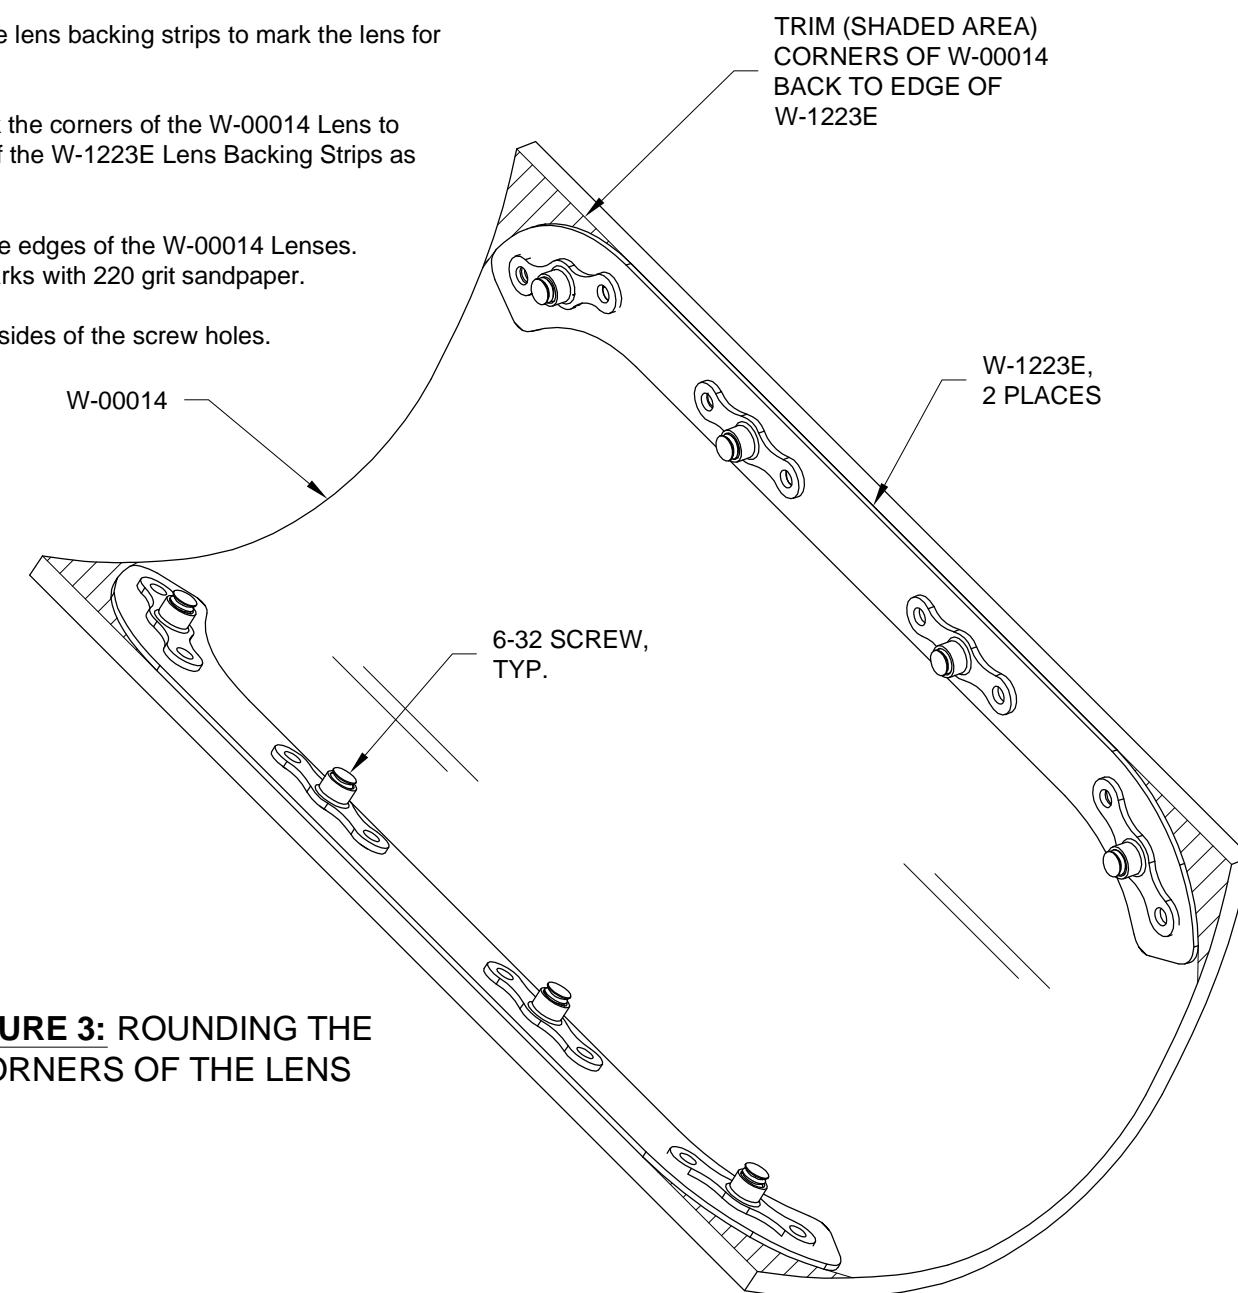

FIGURE 3: ROUNDING THE CORNERS OF THE LENS
Step 9: Temporarily position the W-1223E Lens Backing Strips on the W-00014 Lens as shown in Figure 3.
Step 10: Trim back the corners of the W-00014 Lens to match the edges of the W-1223E Lens Backing Strips as shown in Figure 3.